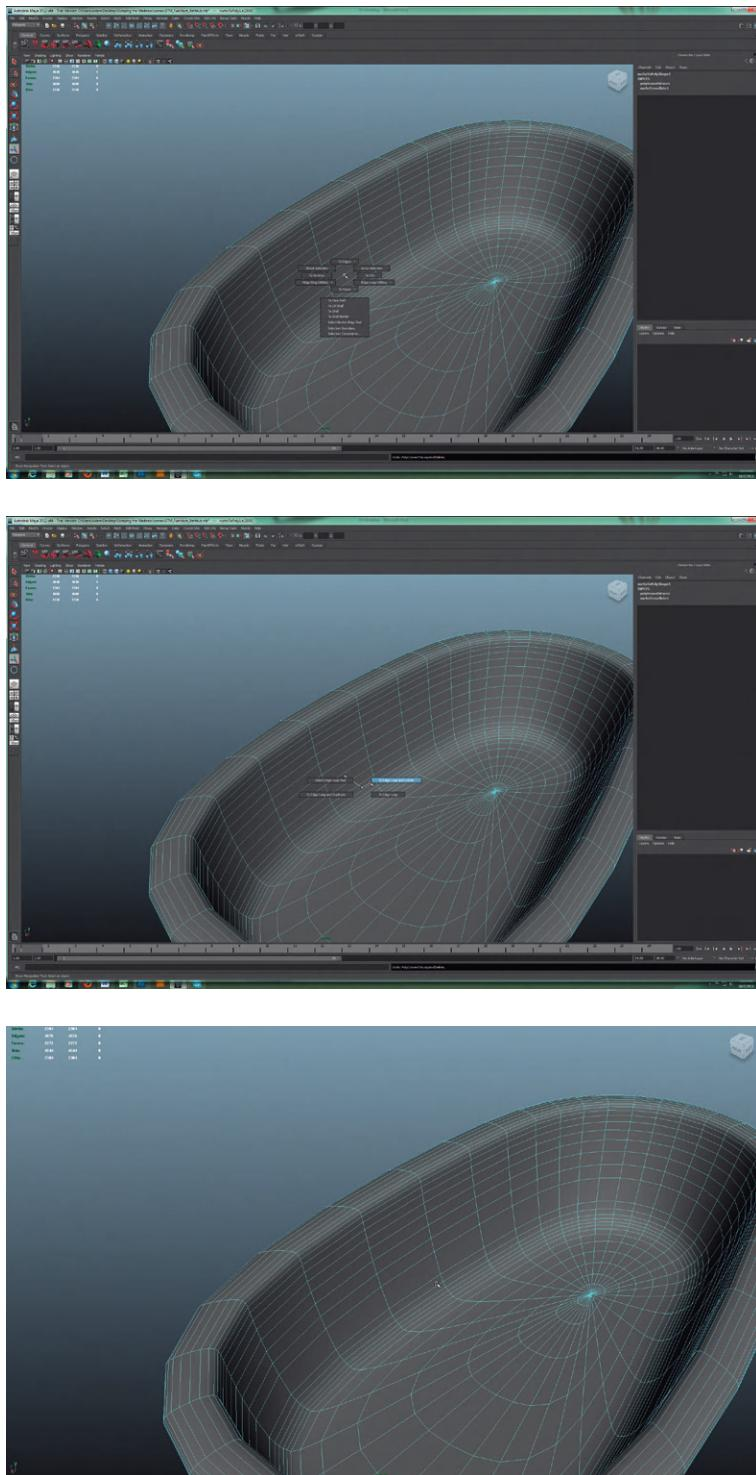
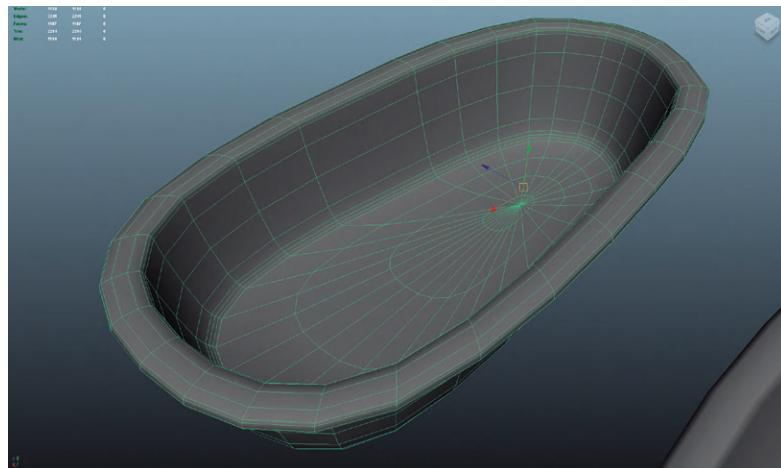

FIG 3.76 Deleting unnecessary geometry with the To Edge Loop and Delete.
FIG 3.77 Results of deleting unnecessary edge loops.
Step 10: Optimize by deleting unneeded edge loops. To do this, select an edge and ctrl-right-click-hold and select Edge Loop Utilities > To Edge Loop and Delete (Fig. 3.76). Look for areas where there are many loops defining a collection of geometry that could be defined with fewer. My final solution can be seen in Fig. 3.77. Yours may vary.